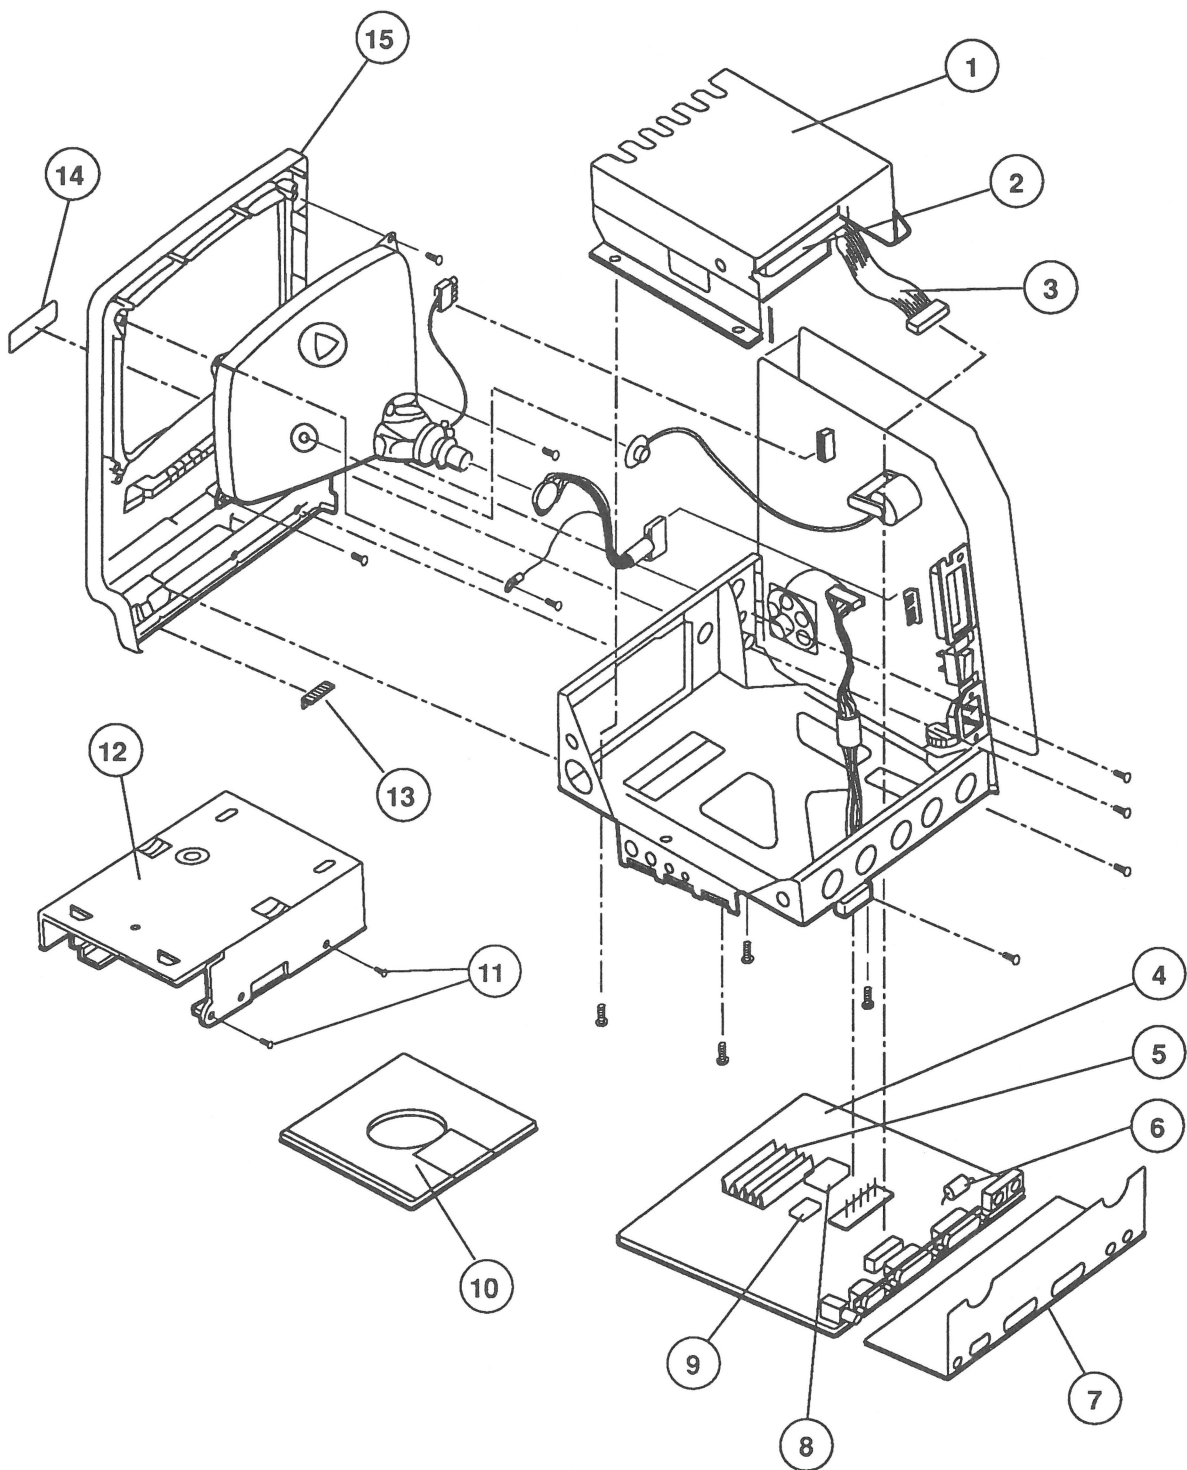

FIGURE 7
□ MACINTOSH PLUS—EXPLODED VIEW (Figure 7)